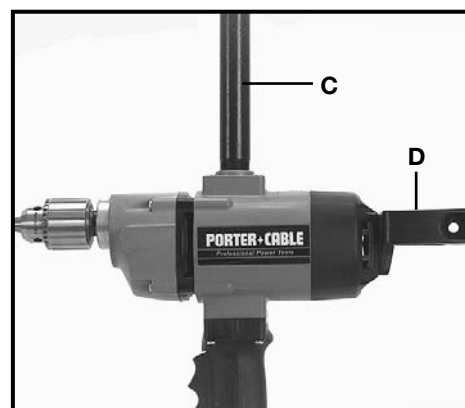
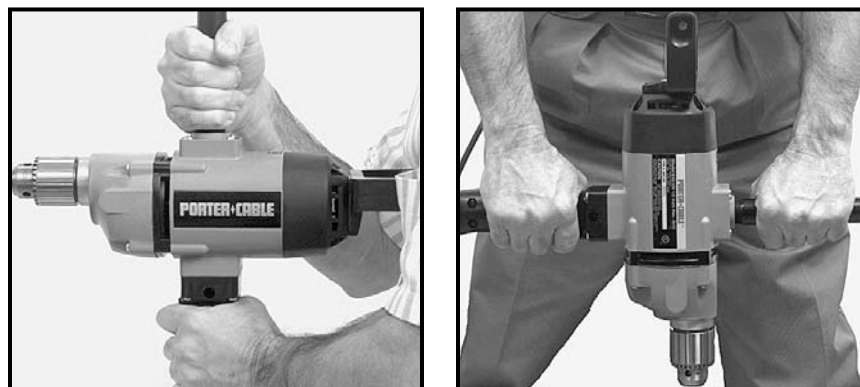

Fig. 2
Fig. 4
A spade handle (D) Fig. 2, is furnished with the tool. This handle may be assembled in any one of four positions on the back of the drill. Place the washer on the screw, insert screw through hole in spade handle, locate handle as desired, and tighten screw securely. The spade handle was designed to carry or transport the tool only. NEVER hold the tool by the spade handle during drilling operations.
An auxiliary handle (C) Fig. 2, is supplied with some models. This handle screws directly into the drill housing providing complete control of the drill.
It is strongly recommended that the auxiliary handle be used and tool held as illustrated in Fig. 4 during all drilling operations.
⚠ WARNING: The front end of drill may be made live if the tool drills into live wiring in a wall. TO PREVENT ACCIDENTAL ELECTRICAL SHOCK, DRILL MUST BE HELD AS SHOWN IN FIG. 4.
An auxiliary handle (C) Fig. 2, is supplied with each drill. The auxiliary handle should be used during all drilling operations: firmly grasp auxiliary handle with one hand and switch handle with the other hand as shown in Fig. 4.